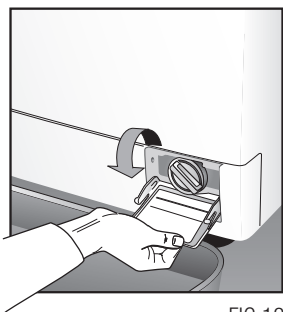

FIG 12
- Place towel or pan under trap door (Fig. 12) to catch any water.